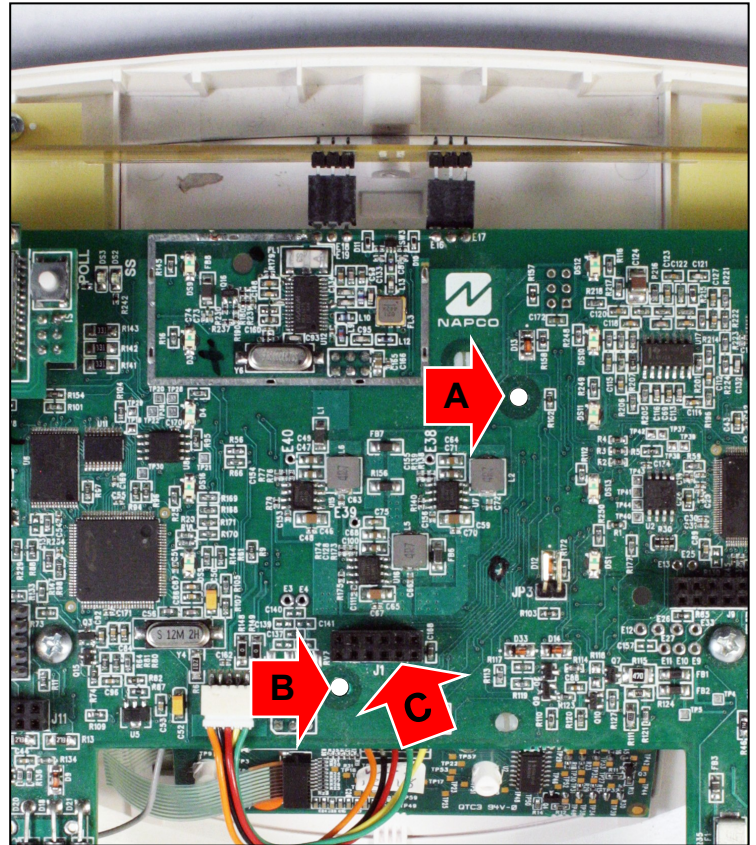

Fig. 2: Two standoff holes ("A" & "B") and "Header Socket J1" ("C").
2. Re-verifying that the Go-Anywhere Smart Hub A/C and battery power are disconnected, use Fig. 2 to locate the two **Standoff Holes** located near the center of the Go-Anywhere Smart Hub PCB (red arrows "A" and "B") and locate the **Header Socket J1** (red arrow "C").